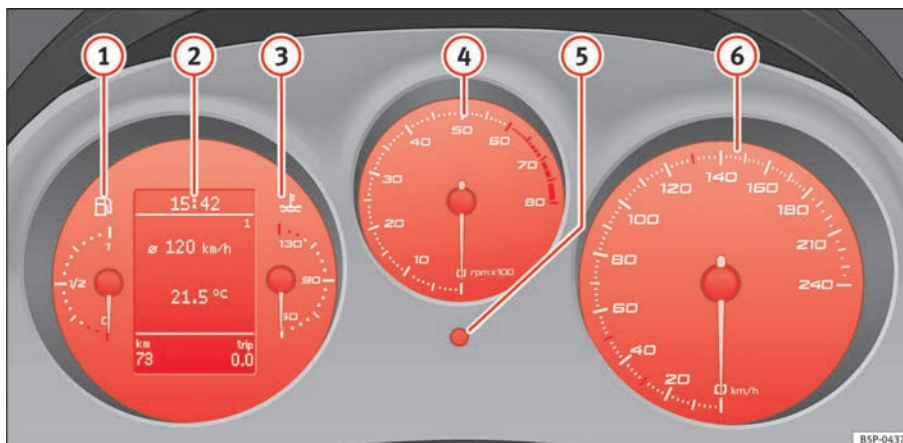

Fig. 32 Detailed view of instrument panel: instrument panel
The start of the red zone ⇒ page 55, fig. 32  indicates the maximum engine speed operating at service temperature. However, it is advisable to change up into a higher gear, move the selector lever to D or lift your foot off the accelerator before the needle reaches the red zone.
- Turn the setting knob ⇒ page 55, fig. 32  clockwise until the first “click” to set the hour. The hour will flash. To change the hour, press the button.
The right-hand counter registers the short journeys. The last digit indicates steps of 100 metres. The trip recorder counter may be reset by holding down the reset button ⇒ page 55, fig. 32 ⑥ for a few seconds.